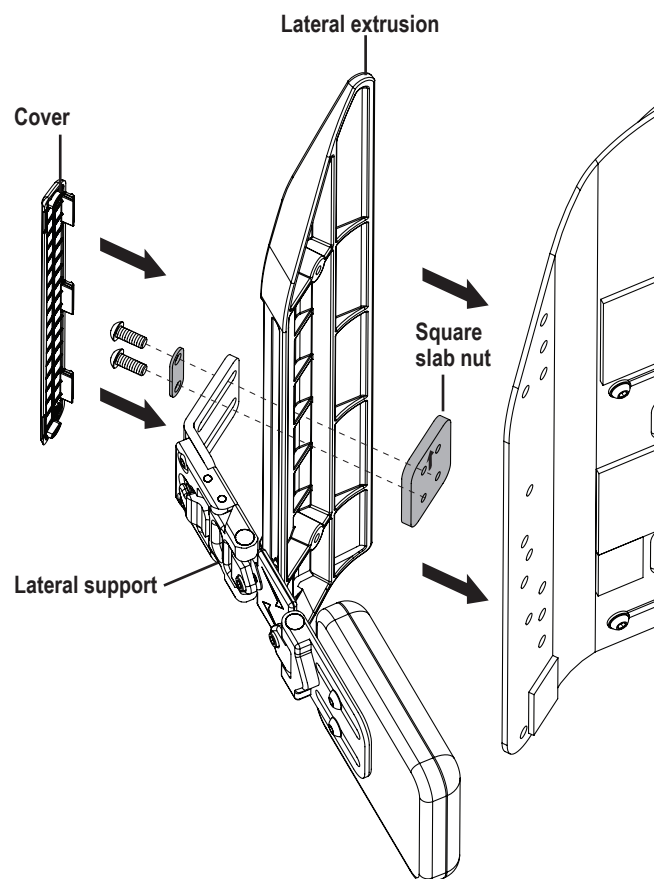

Figure 20. Laterals
3. Install the lateral support into the lateral extrusion. **See figure 20.**
4. Insert the spacer and the two (2) bolts through the lateral support and the square slab nut. Do not tighten completely.
1. Loosen the two (2) bolts in the lateral extrusion.
2. Slide the lateral support to the desired height and width. **See figure 20.**